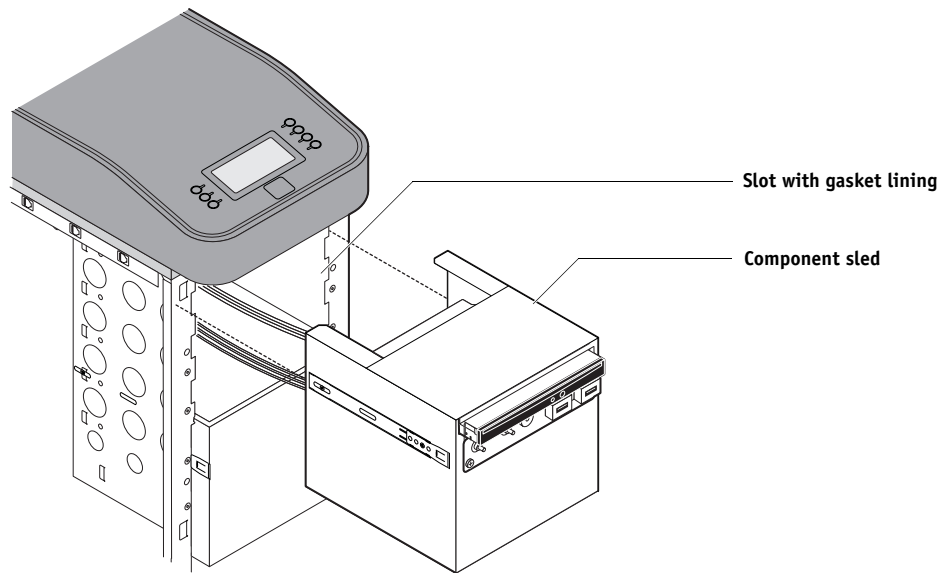

FIGURE 45: Removing/replacing the component sled
4. Remove the component sled from the chassis (see Figure 45).
4. Install the component sled in the chassis (see Figure 45 on page 127).